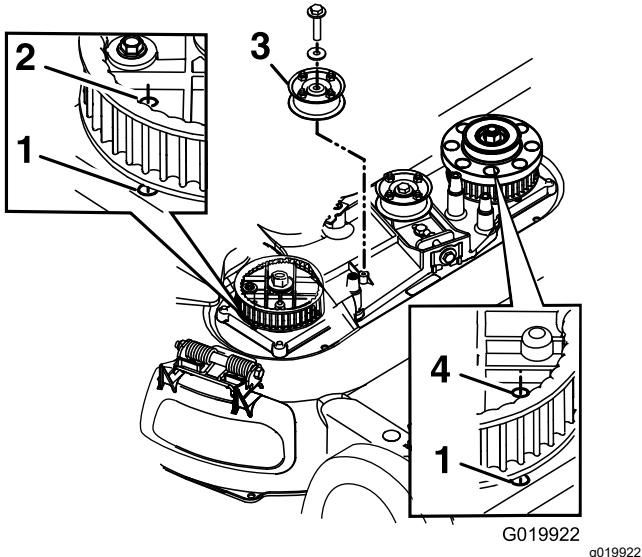

Figure 46
- 8. Remove the fixed idler pulley and the hardware (Figure 46).
- 10. Align the holes in the right-hand and left-hand sprockets with the holes in the housing as shown in Figure 46.